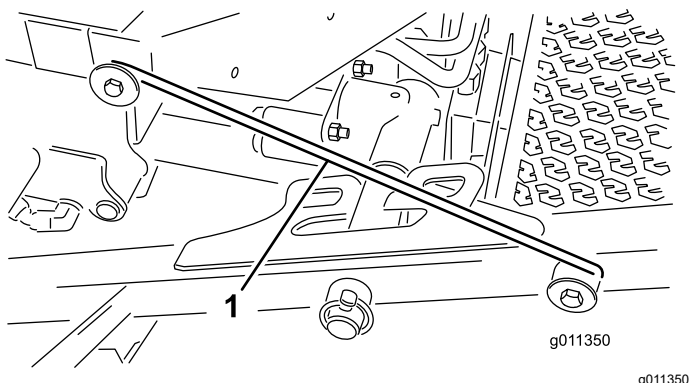

Figure 7
4. Release the latch rod (Figure 7) from front carrier frame retainer.
5. Lift the outside of the front cutting decks and place the latch over the frame pin mounted on the front of the operator's platform (Figure 7).